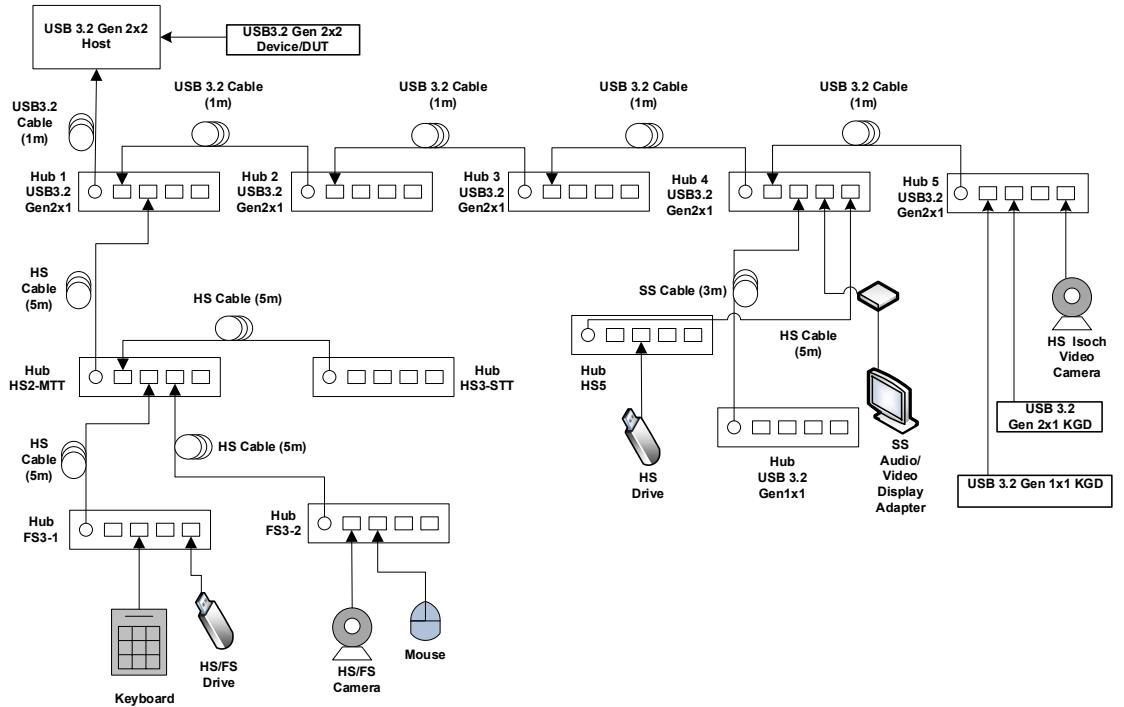

Figure 13-4: Modified USB 3.2 Gen 2x2 Host/Device Interoperability Interim Tree
- o Connect the USB 3.2 Gen 2x2 tree as shown in Figure 13-4
- o Disconnect the USB 3.2 Gen 2x2 DUT device from root port (refer to Figure 13-4) and connect it behind Hub 5 USB 3.2 Gen 2x1